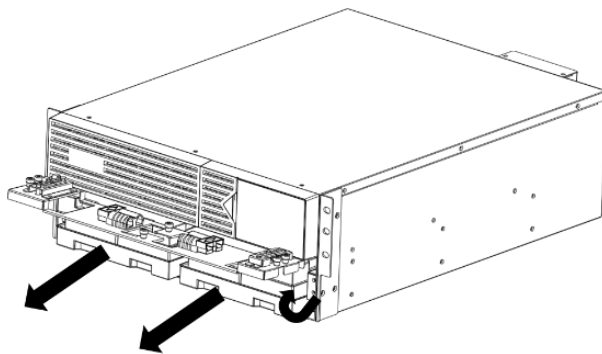

Figure 3
3. Pull the internal battery modules directly out the front of the UPS. (Fig. 3)